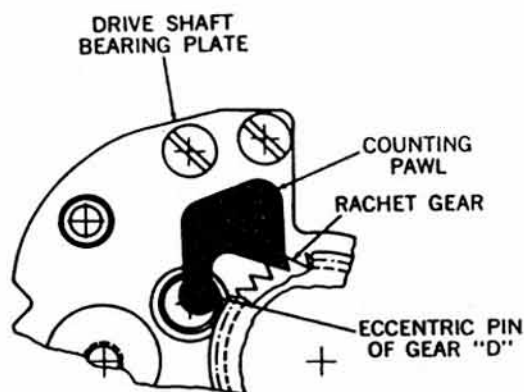

Figure 1-10. Frame Counting Mechanism.
b. *Frame Counter* (fig. 1-10). The frame counter advances one index each time the winding lever completes a stroke. An eccentric pin on top of gear "D" couples with a pawl. A spring-loaded, flat-headed pin on the under side of the pawl rides in an elliptical slot. The pawl engages a tooth of the frame counter ratchet gear as the eccentric pin rotates.